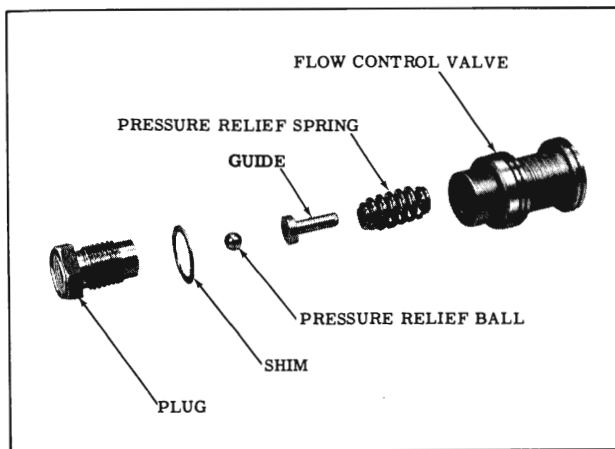

Fig. 4-28 Flow Control Valve
- b. Remove the hex head plug and shims. (Fig. 4-28) Note the number of shim(s) on the plug so the same number of shim(s) can be reinstalled during assembly.
1. If the flow control valve was disassembled, assemble as shown in Fig. 4-28. Use the